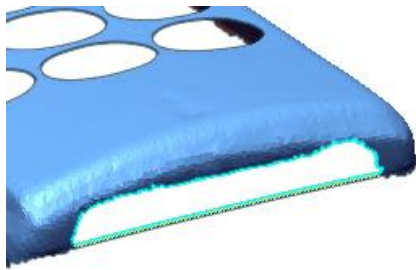

Figure 420
- Select the boundary created by the bridge shown in **Figure 420**.